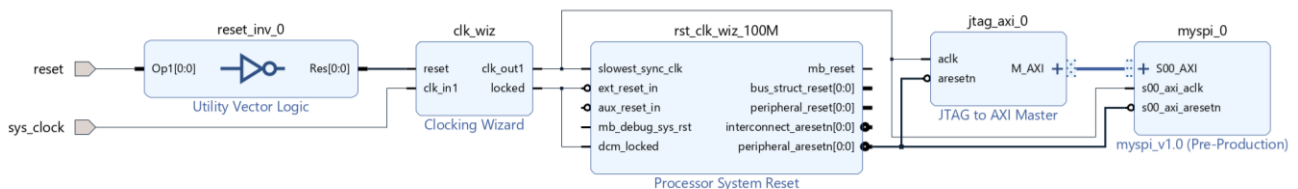

Figure 5: Final diagram for part A.
- 5) Right click on blank area and click “Regenerate Layout”, you block diagram should look like Figure 5.